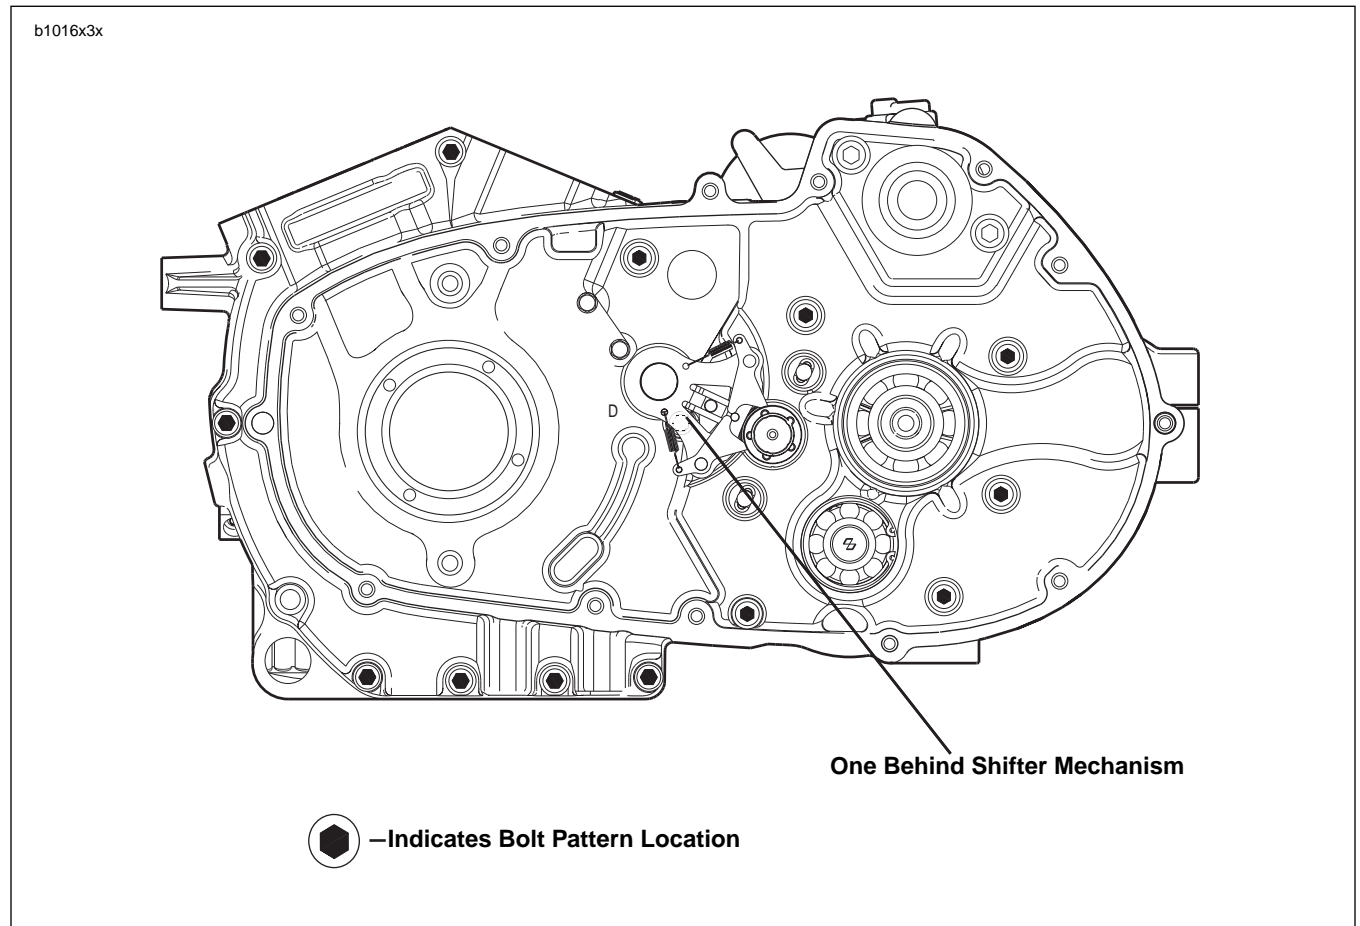

Figure 3-136. Crankcase Fasteners
8. See Figure 3-136. Remove screws securing crankcase halves together.